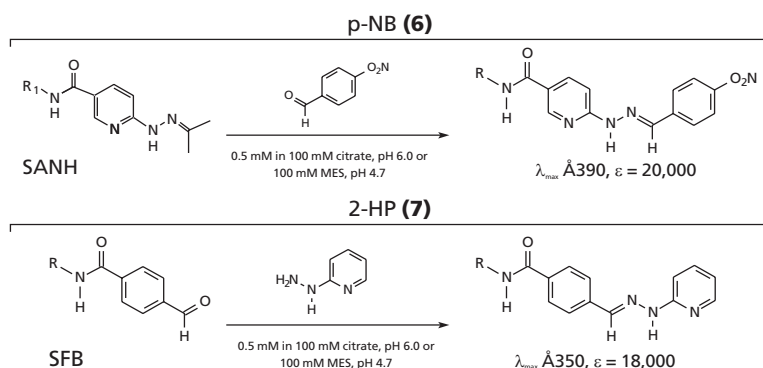

FIGURE 5 • Reaction schemes for the quantification of 2-hydrazinopyridyl and benzaldehyde
The unique traceability of our hydrazone chemistry is illustrated in Figure 5. As can be seen in the figure, SoluLink uses p-nitrobenzaldehyde (p-NB) (6) to readily form a UV-traceable hydrazone bond (λ_{390}) on reaction with HyNic groups incorporated after modification of the protein. Conversely, 2-hydrazinopyridine (2-HP) (7) is used to form UV-traceable hydrazone